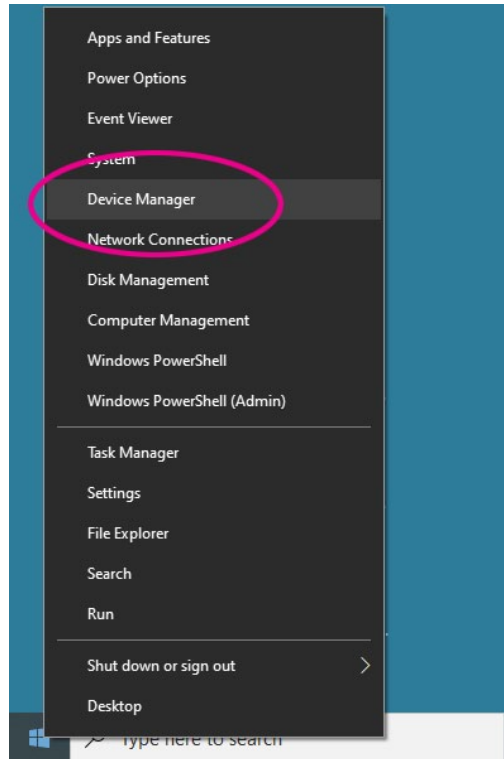

Figure 8 - Go to the Device manager
1. Once the controller and computer are connected, open the Device Manager. Right click the Windows Start button at the bottom left of the screen. Select Device Manager (Figure 8).